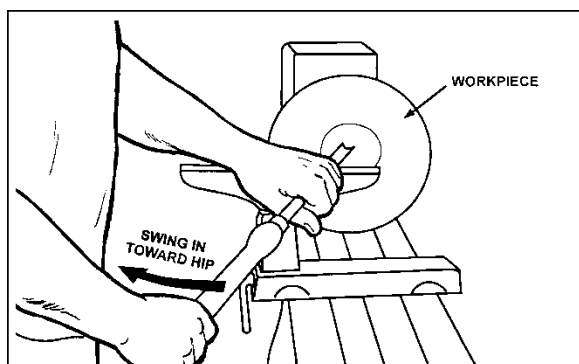

Figure 10-11
5. Place 1/2" bowl gouge on tool support at center of the workpiece with the flute facing top of bowl. The tool handle should be level and pointed toward the four o'clock position, as shown in Figure 10-11.
6. Use the left hand to control cutting edge of gouge, while right hand swings tool handle around toward your body (Figure 10-11). The flute should start out facing top of workpiece, and rotate upward as it moves deeper into the bowl to maintain a clean even curve. As the tool goes deeper into the bowl, progressively work out toward the rim. It may be necessary to turn the tool support into the piece as you get deeper into the bowl.